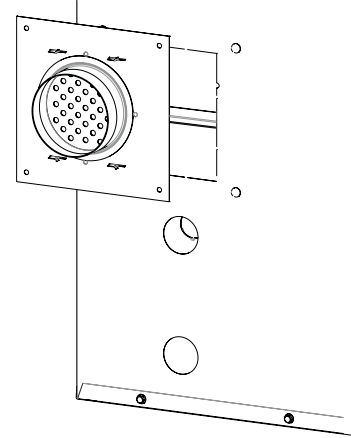

Figure 15
3. Insert Slide Assembly through the cut-out as shown in Figure 15. Before you fasten ensure that the handle penetrates the inner firebox wall. See Figure 16. Fasten the Slide Assembly with the four 10 x 1/2 Hex Head Screws provided.